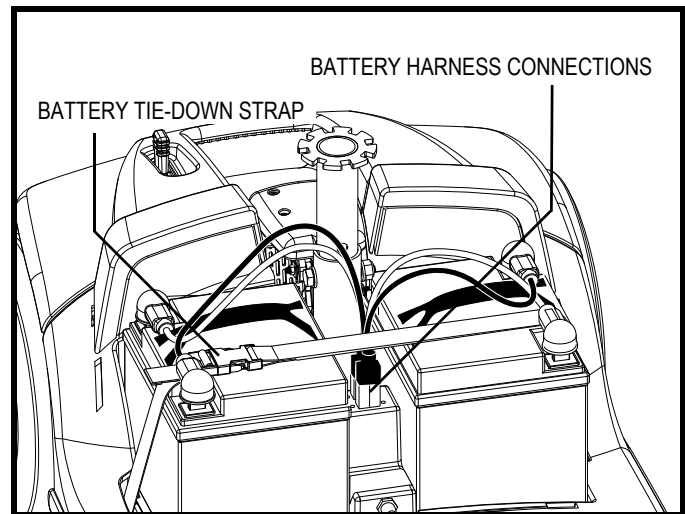

Figure 22. Harness Connections
4. Unplug both battery harnesses by pulling each harness straight up. See **figure 22**.
6. Connect both battery harnesses. See **figure 22**.